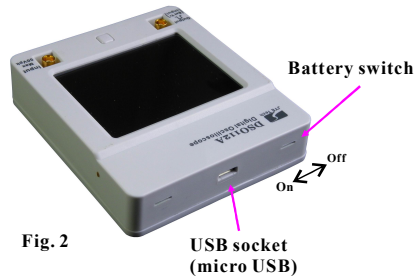

Fig. 2
- Close the internal battery switch (see Fig.2) by sliding it towards the USB connector with a small stick.